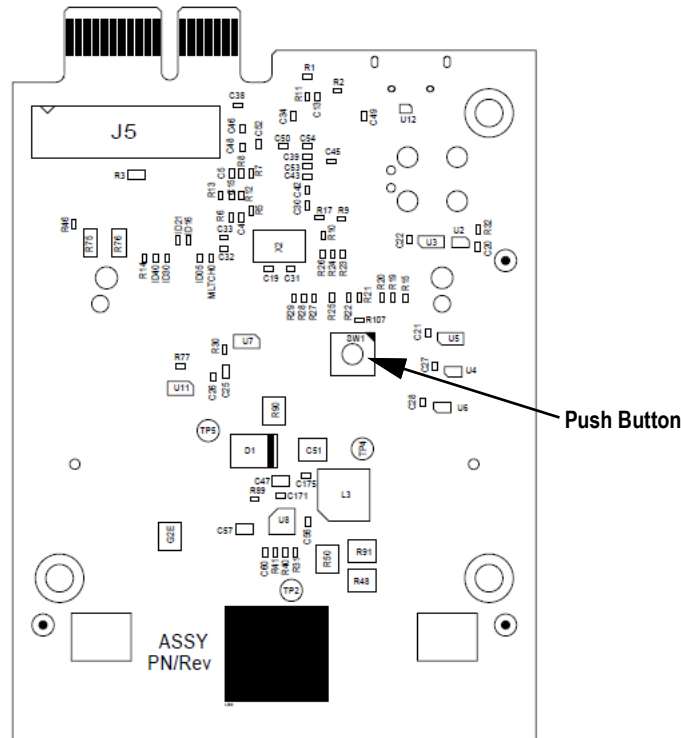

Figure 10-4. Push Button Location on the Anybus Host Card (PN 164756)
6. While holding down the card's push button, plug the USB micro end into the J4 connector (see Figure 10-4). PC detects a removable USB device called *CRP DISABLD*.